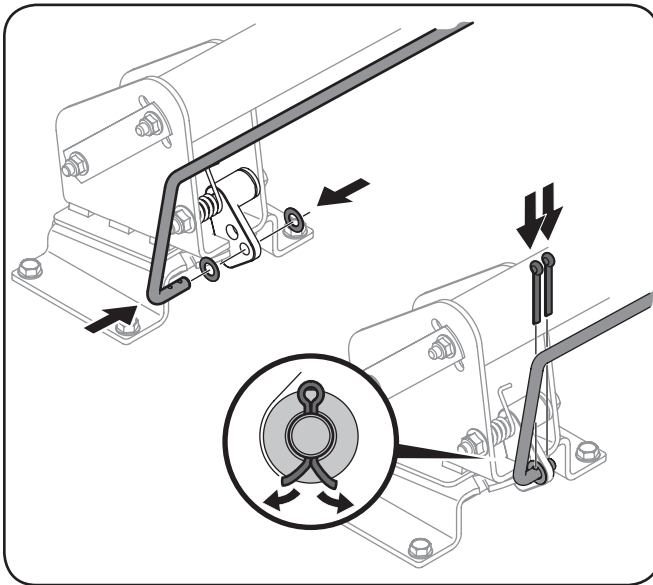

Figure 3-6
- Secure the handle pivot rod control onto the swing handle link using the two thrust washers and cotter pins as shown in Figure 3-6.